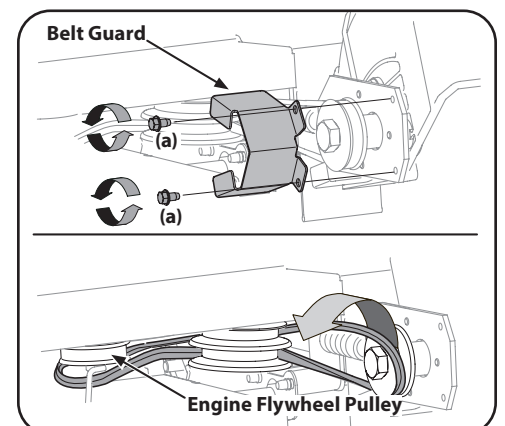

Figure 4
3. Remove the spindle sheaves belt guard by removing the two self-tapping screws (a) which secure it to the blade plate assembly. See Figure 4.
4. Carefully remove the belt from off of the pulleys, again making sure to note the orientation of the belt. Discard the belt. See Figure 4.
- NOTE:** Make certain that the "V" side of the belt is seated into the top pulley and the flat side of the belt is seated into the bottom pulley. See Figure 4.